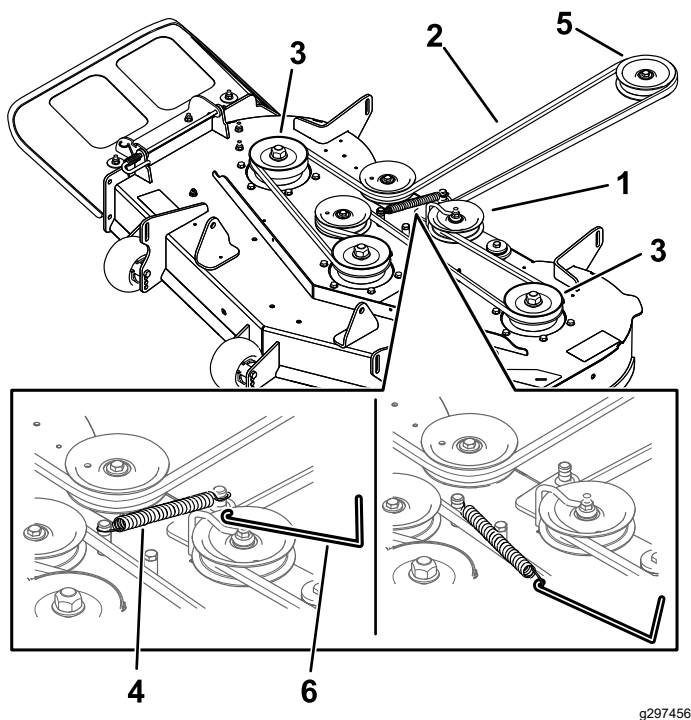

Figure 55
- Using a spring-removal tool (Toro Part No. 92-5771), remove the idler spring from the deck hook to remove tension on the idler pulley and roll the belt off the pulleys (Figure 55).
- Route the new belt around the engine pulley and mower pulleys (Figure 55).
- Using a spring-removal tool (Toro Part No. 92-5771), install the idler spring over the deck hook and place tension on the idler pulley and the mower belt (Figure 55).